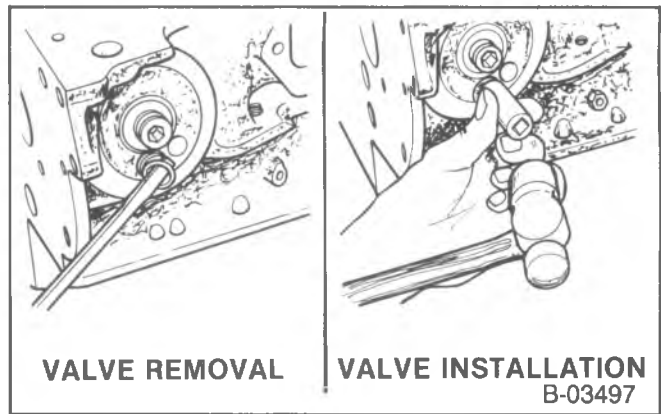

Figure 39—Replacing The Oil Filter Bypass Valve
Remove or Disconnect (Figure 39)
2. Oil filter relief valve. Pry it from the block with a screwdriver (figure 39).
Install or Connect (Figure 39)
1. Oil pressure relief valve. Tap into place. Use a 9/16-inch thin wall deep socket as a driver (figure 39).